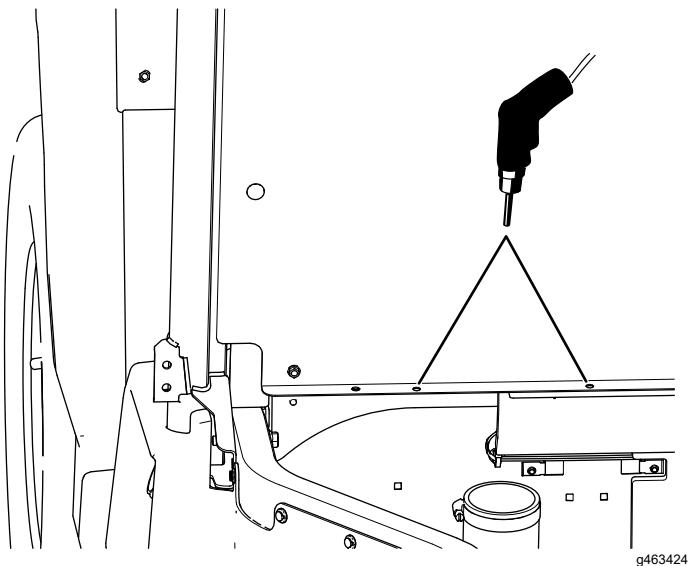

Figure 64
D. Move the CVT-intake hood and drill the 2 holes (11/32 inch) into the seat panel (Figure 64).